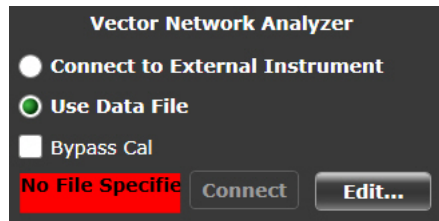

Figure 45 Use Data File option for Vector Network Analyzer
- Instead of connecting to the Vector Network Analyzer, you can also use the data file. Select the **Use Data File** check-box and the **Edit...** button appears, as shown in Figure 45.